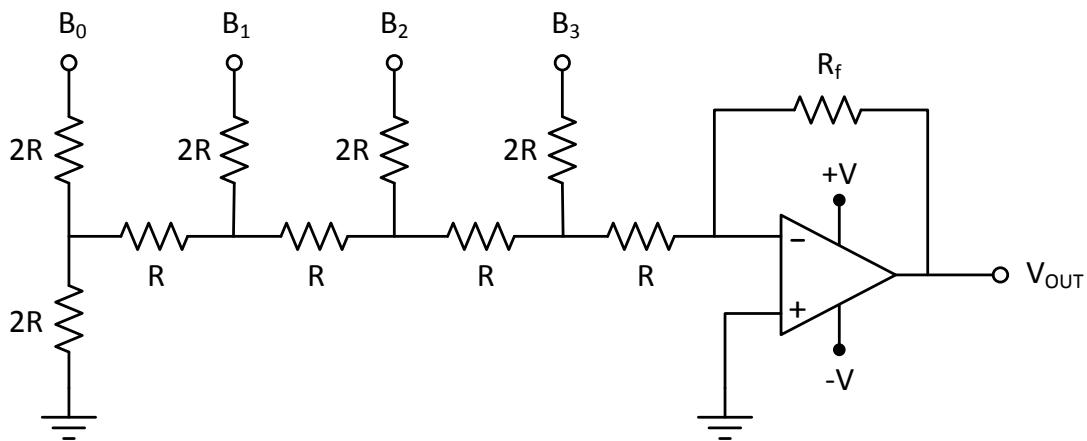

Figure 63: R-2R Digital to Analog Converter
In this method, each digital input is fed into a series of repetitive arrangement of resistors as shown in Figure 63. This arrangement gives each digital input a weighted contribution to the output analog signal. The 3rd bit for example passes through 2R only, while the first bit has to go through two additional R resistors before it reaches the output.
1. Assemble the circuit as shown in Figure 63. Set the multimeter to DC voltage range.